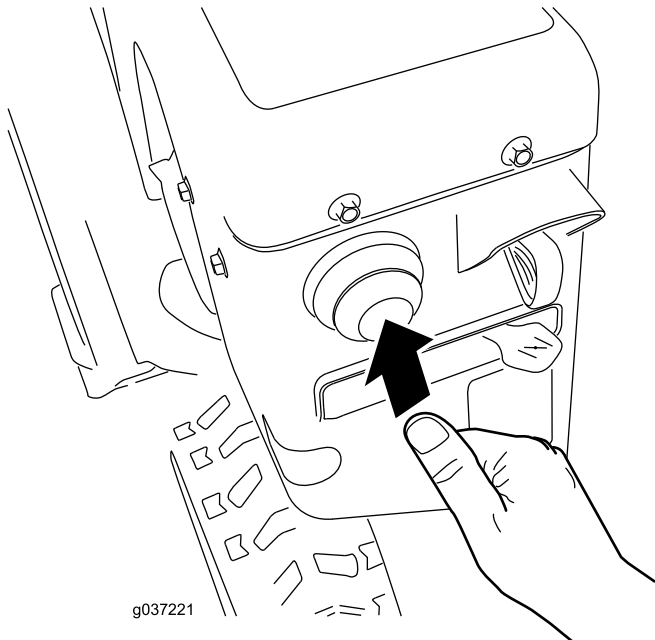

Figure 20
4. Firmly push in the primer with your thumb as indicated by the table below, holding the primer in for a second before releasing it each time (Figure 20).